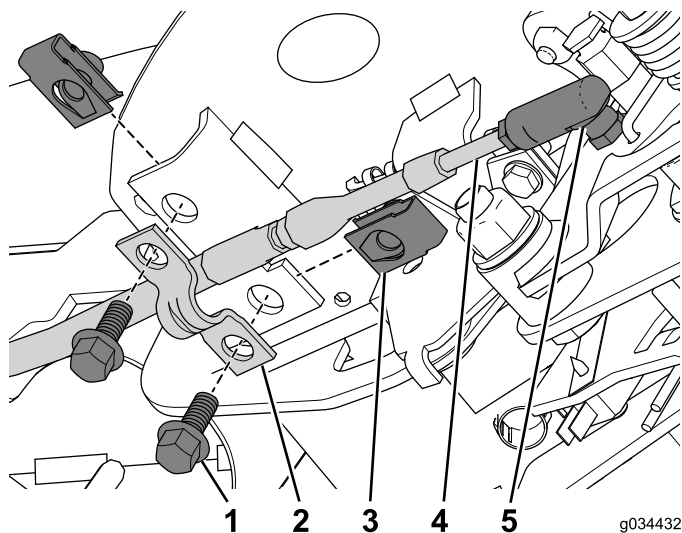

Figure 25
3. Connect the neutral-lock cable to the cable connector (Figure 25).
4. Install the retainer nut on to the console assembly (Figure 25).
5. Use the 2 bolts (1/4 x 5/8 inch) to secure the cable with the cable clamp to the console assembly (Figure 25).